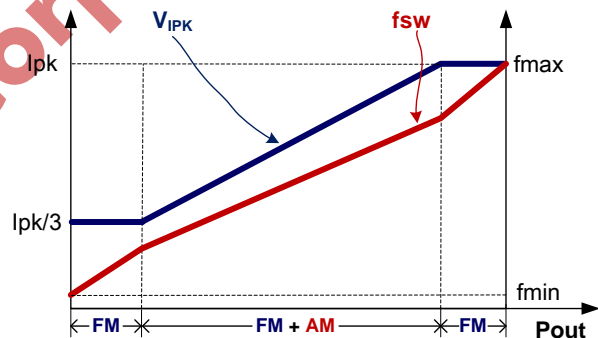

Fig.1
To meet the tight requirement of averaged system efficiency and no load power consumption, a hybrid of frequency modulation (FM) and amplitude modulation (AM) is adopted in KP321XB which is shown in the Fig 1.